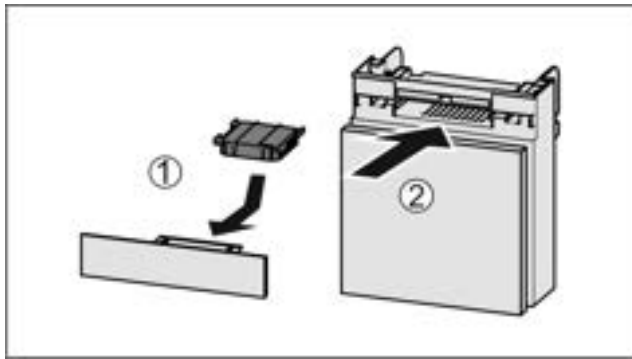

Fig. 76
- Insert the carbon filter as shown in the diagram Fig. 76 (1).
- Push the compartment in Fig. 76 (2).